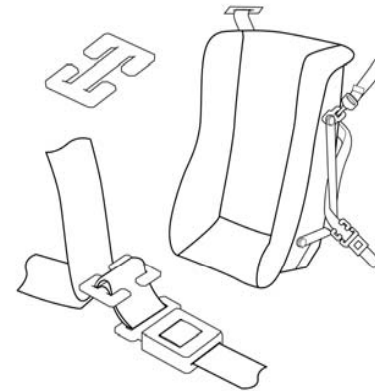

Figure 3: Combination Lap/Shoulder Belt with Locking Clip
9. Fold the webbing and thread it through the locking clip, one side at a time keeping the locking clip as close as possible to vehicle belt latch – no further than ½" away. **See Figure 3.**